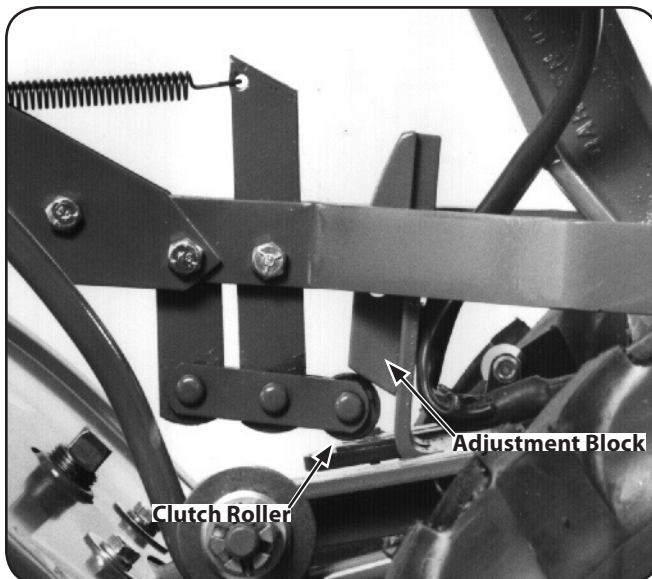

Figure 3-11
7. Test the operation of the Wheels/Tines/PTO Lever. Push the lever down until it engages in the Forward position. The clutch roller must rest beneath the adjustment block. Next, move the lever up to the Neutral position. See Figure 3-11.